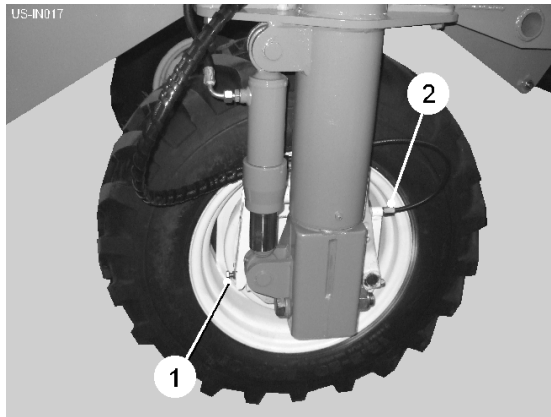

Fig 14
Connect the hydraulic brake hose to the tractor 'brake service outlet'. The machine brakes will operate when the tractor brakes are applied. Brake shoe wear can be taken up by adjusting the setscrews (item 1, fig 14).
To apply the handbrake, pull the lever (item 1, fig 15) in and out against the ratchet until the brake cables are fully tensioned. To remove the handbrake, pull the lever fully out to release the ratchet mechanism catch (item, 2, fig 15). Finally, push the lever back under the machine for transport. Handbrake cable length is set on the cable adjusters (item 2, fig 14).